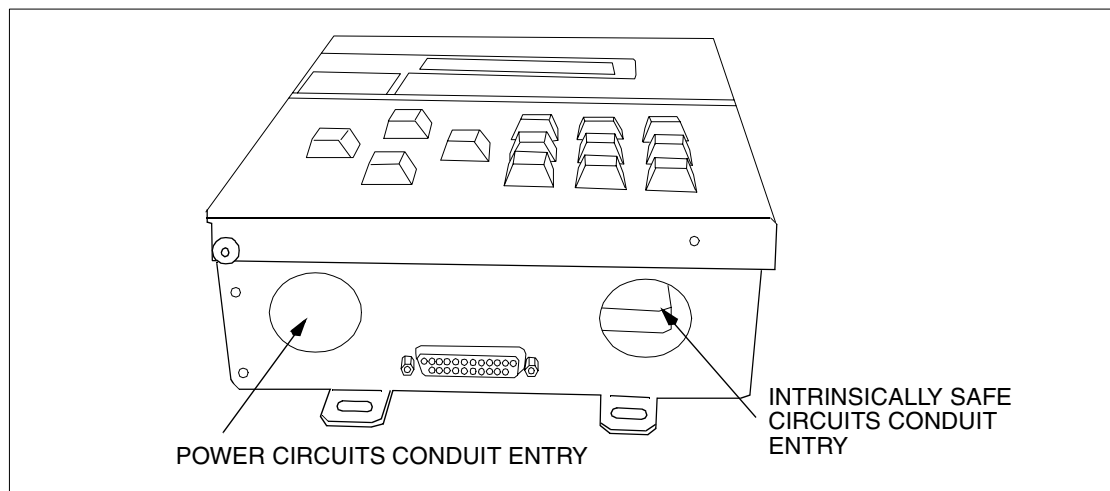

Figure 6. Conduit Knockouts for Probe and Sensor Wiring
4. Connect the power wiring conduit and probe and sensor wiring conduit(s) in the designated knockouts [Figure 6].